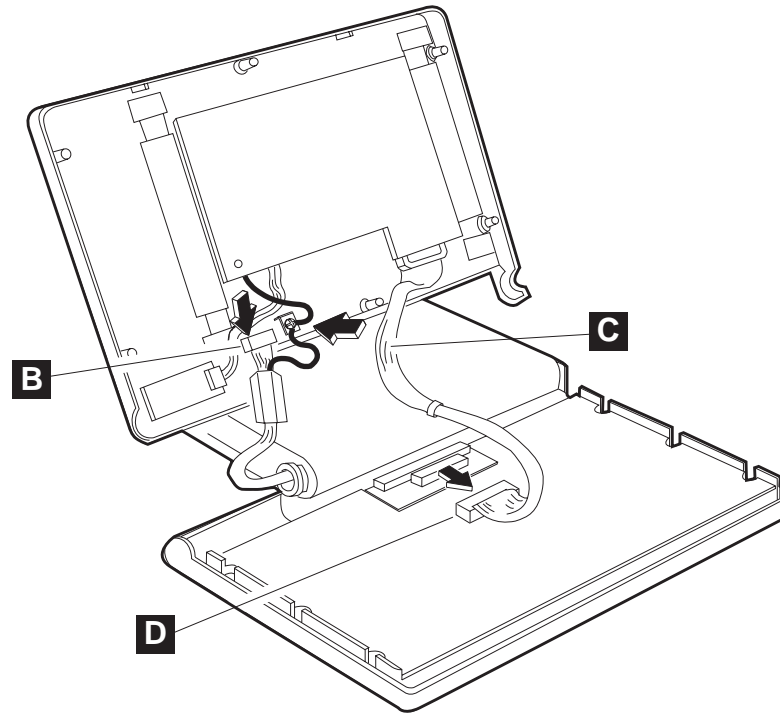

Figure 62. Disconnecting the connector, screws, and cables
2. Lift up the bottom cover assembly as shown in Figure 62 on page 63